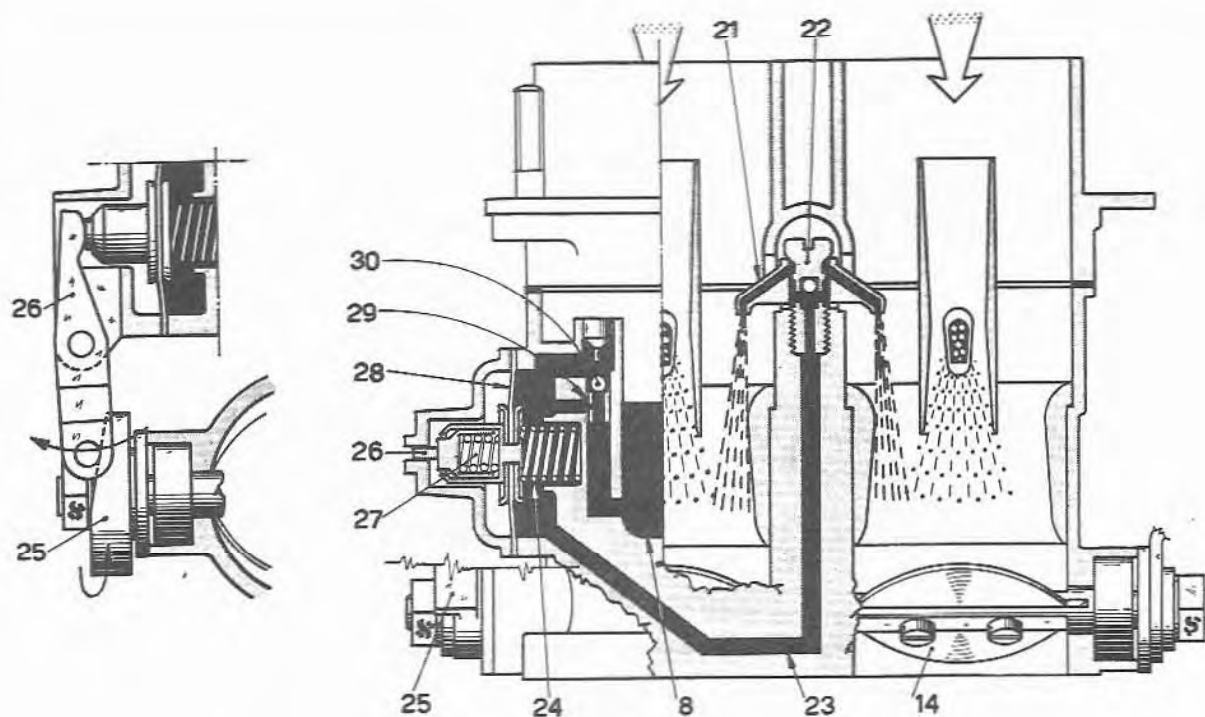

Fig. 13.4 Acceleration phase (Sec 3)
Refer to Fig. 13.4 and note that when the throttle valves are closed, the spring (24) pushes the diaphragm (28) outwards and fuel is drawn from the float chamber (8), through the ball valve (30) into the pump chamber. When the throttle valves are opened, the cam (25) operates the lever (26) and the diaphragm (28) is depressed against the tension of the spring (24). Fuel is forced along the channel (23) to the delivery valve (22) and is injected through the pump jets (21) into the carburettor barrels in the vicinity of the auxiliary venturis. The spring (27) dampens any sudden opening of the throttle valves and prolongs the full delivery. The calibrated discharge hole (29) allows excess fuel and any accumulated air and vapour to escape into the float chamber.